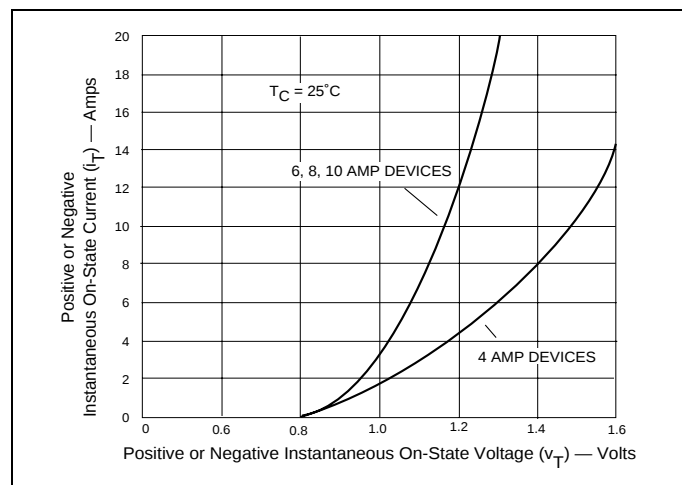

Figure 3.4 On-State Current vs On-State Voltage (Typical) (4-10 Amps)
- (3) See Figures 3.4 and 3.5 for i_T vs v_T .